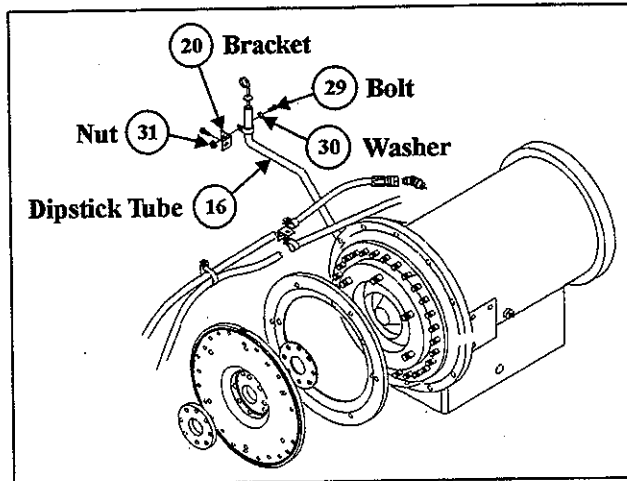

Figure 9—Dipstick Removal.
11. Remove nut (31), bolt (29) and washer (30) from bracket (20). (See Figure 9—Dipstick Removal.)
- Remove dipstick tube (16).